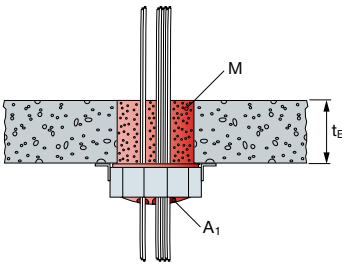

Figure 7: Mortar CP 633 as gapfiller (M)
- Annular space between services and floor edges are filled with Mortar (M) M10 (CP 633; Figure 7).